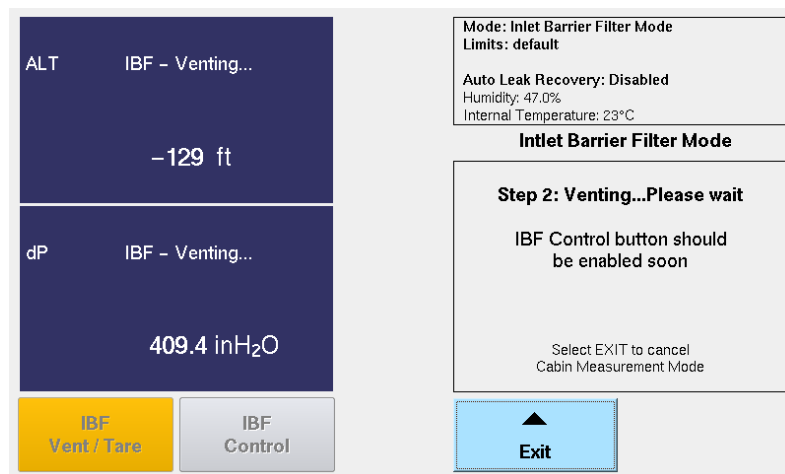

Figure H. 6 IBF Step 2 Screen
9. Select “Yes” to confirm this action. Step 2 screen is displayed briefly while unit is venting to ambient and performing Tear function (Fig. H. 6).